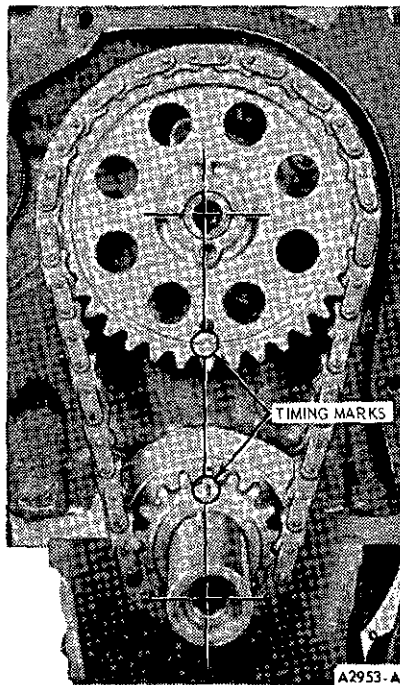

FIG. 45 Aligning Timing Marks
13. If the timing chain and sprocket are to be removed, crank the engine until timing marks on sprockets are as shown in Figure 45.
1. Assemble the timing chain and sprockets so sprocket timing marks point directly toward each other as shown in Figure 45. Install the chain and sprockets as an assembly to crankshaft and camshaft. Verify proper alignment of timing marks after installation. Install front oil slinger.